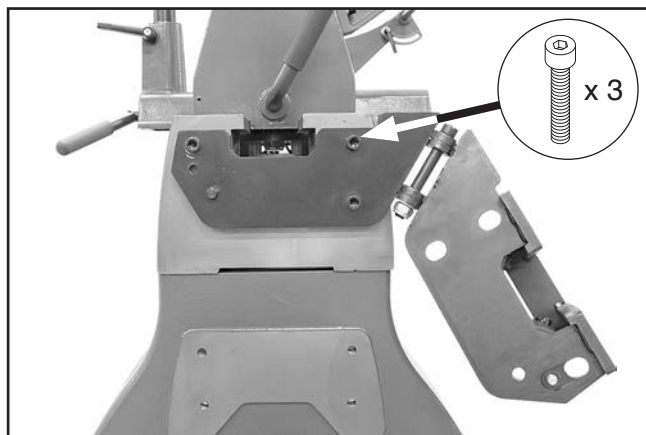

Figure 29. Swing-away bed mounted on right end of bed.
21. Place swing-away bed on right end of bed and secure with (3) M10-1.5 x 25 cap screws (see **Figure 29**). Do not fully tighten cap screws at this time.